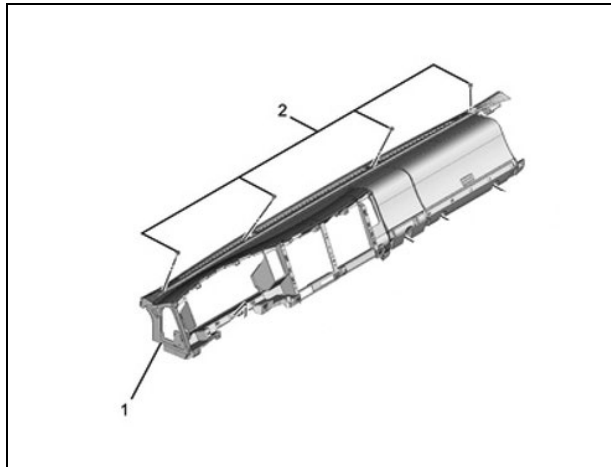

Figure 10
11. Remove the four (4) instrument panel (IP) mounting bolts. (See Figure 10.)